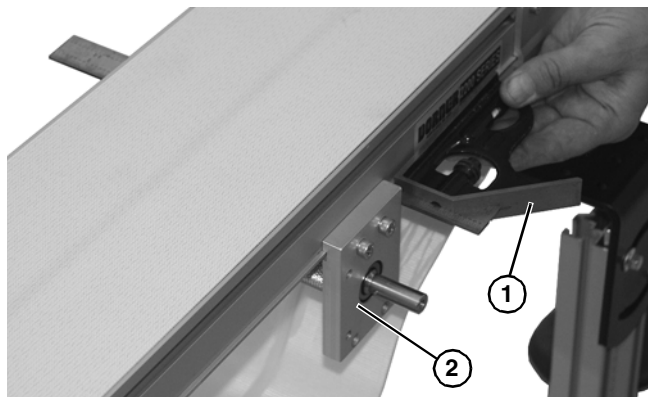

Figure 73
9. Be certain to use a straight edge (**Figure 73, item 1**) across mounting blocks (**Figure 73, item 2**), so blocks are parallel to one another, before tightening hardware.